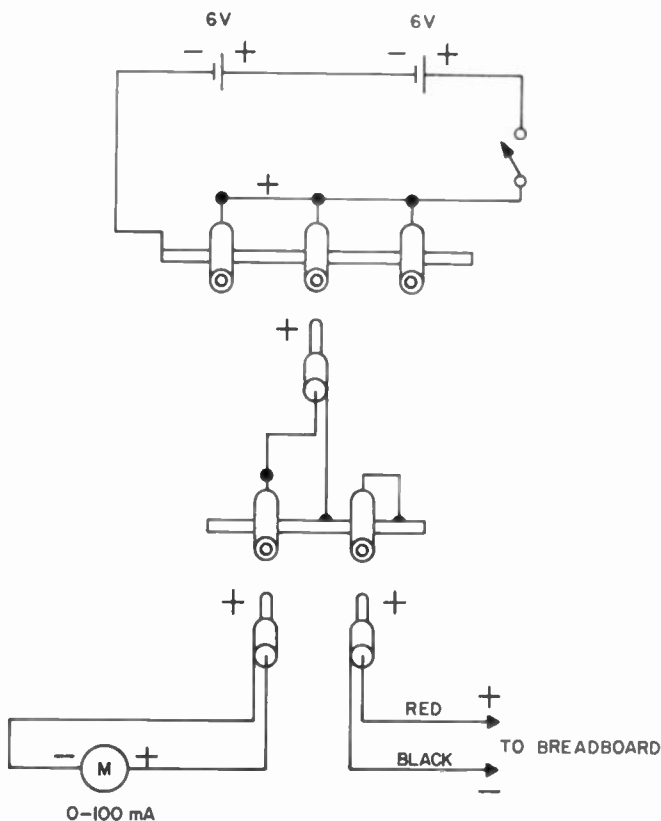

Fig. 7-5. Handy metering jacks and plugs.
*Handy meter jacks.* Figure 7-5 shows an elementary but flexible and useful metering method for checking stage current.